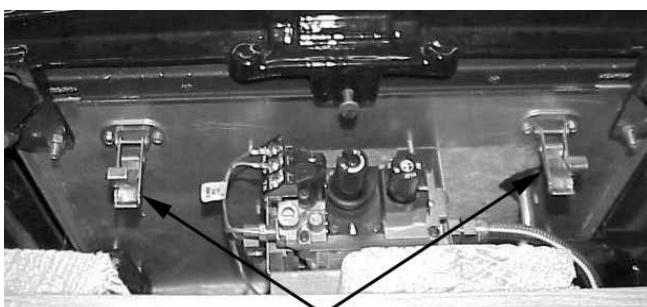

Figure 37
A. Locate and open the 2 latches below the stove body (See **Figure 37**).